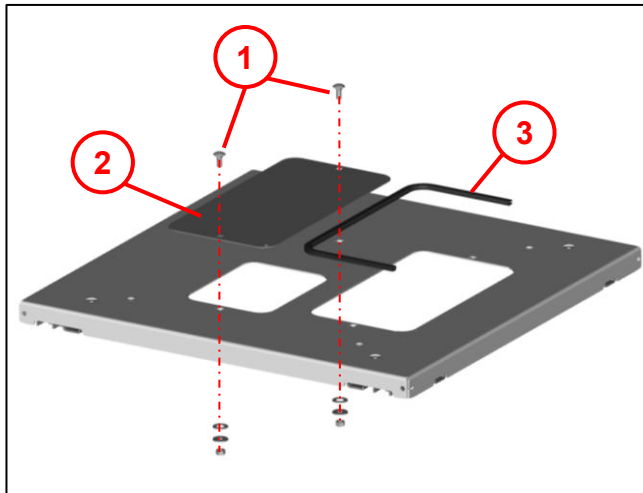

Fig. 34
- Swap the positions of the cable outlet cover (2) and edge protection (1) and refit using the same fastenings as in Fig. 34.
- Remove 4x M12 set screws (3) and close with dummy plugs (see accessories kit).